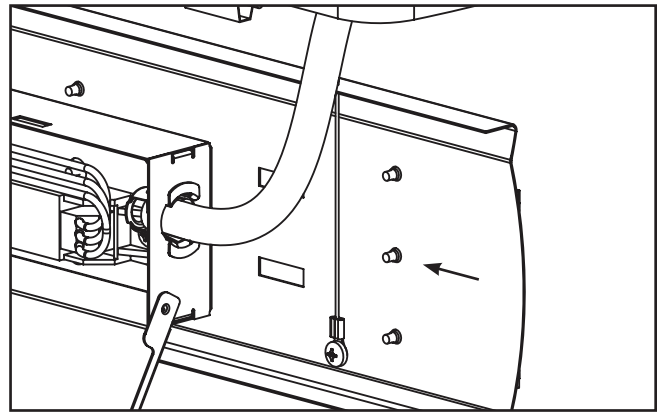

Figure 13.
14. Feed wires through hole in enclosure and fully reinsert clasp until it is locked in place. (Figure 13)